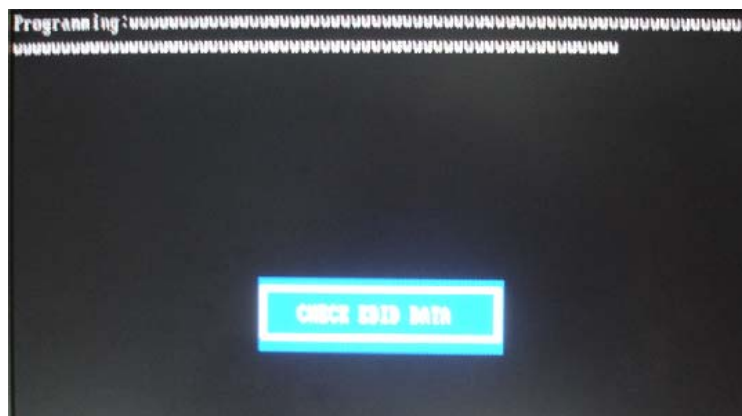

Fig 7
Step 4: Enter, go into the next screen as shown Fig 7.